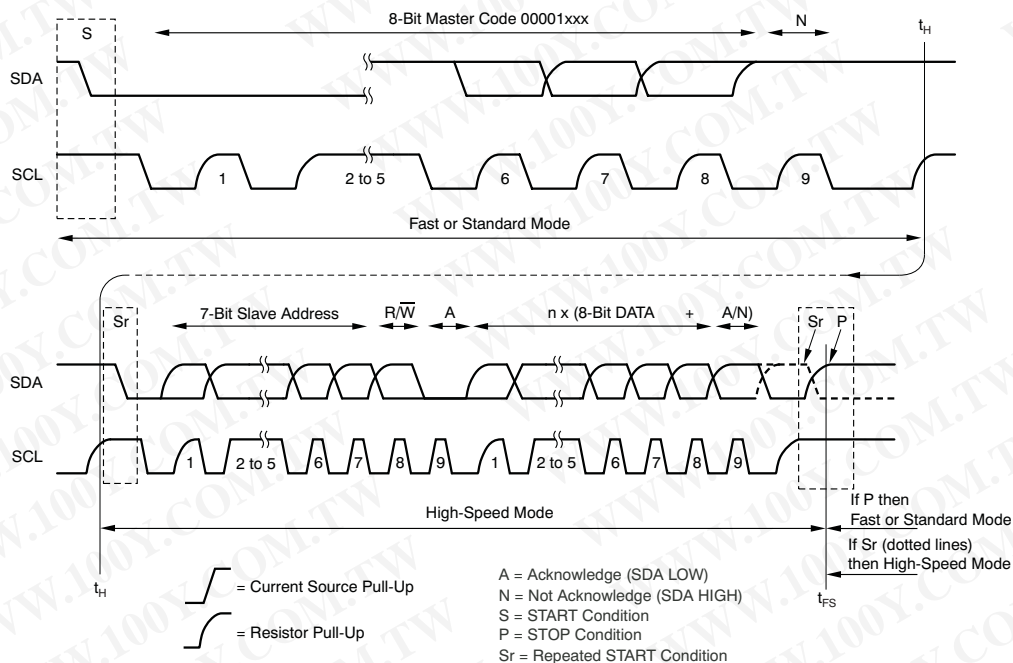

Figure 30. Complete High-Speed Mode Transfer
1. START condition (S)
3. Not-acknowledge bit (N)
Figure 30 shows this sequence in more detail. Hs-mode master codes are reserved 8-bit codes used only for triggering Hs mode, and are not to be used for slave addressing or any other purpose. The master code indicates to other devices that an Hs-mode transfer is about to begin and the connected devices must meet the Hs mode specification. Because no device is allowed to acknowledge the master code, the master code is followed by a not-acknowledge bit (N).
After the not-acknowledge bit (N) and SCL have been pulled-up to a HIGH level, the master switches to Hs-mode and enables the current-source pull-up circuit for SCL (at time  $t_{H1}$  shown in Figure 30). Because other devices can delay the serial transfer before  $t_{H1}$  by stretching the LOW period of SCL, the master enables the current-source pull-up circuit when all devices have released SCL, and SCL has reached a HIGH level, thus speeding up the last part of the rise time of the SCL.